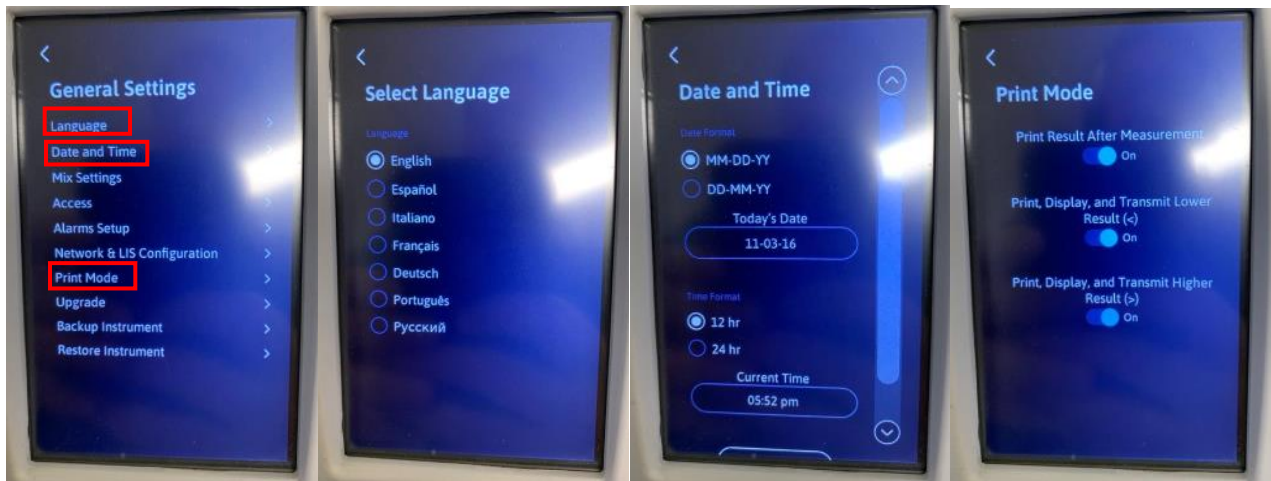

Figure 46
10.5. Update the Language, Date & Time and printing preferences from previous main board OR, if cannot turn unit on, based on Customer preference. See Figure 46.